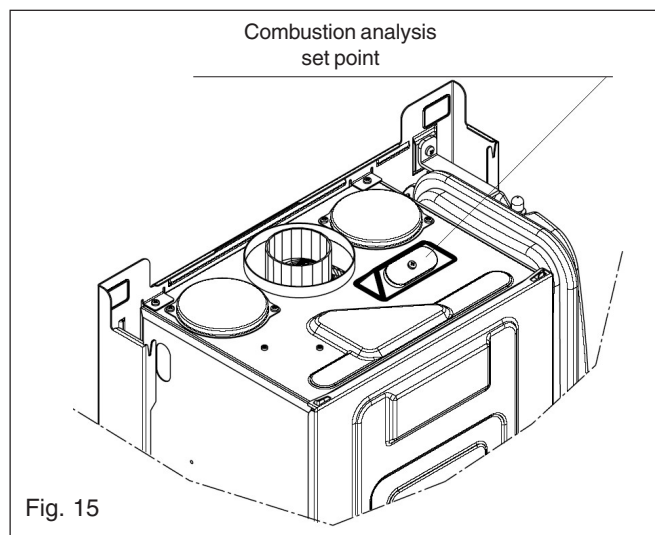

Fig. 15
- Insert the flue gas analyser probe into the right hand test point (see fig. 15).